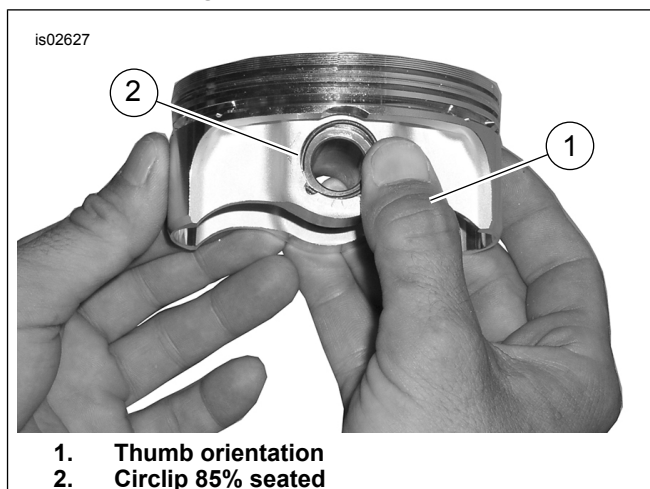

Figure 2. Install Circlip
- See Figure 2. Position your thumb (1) as shown, and press firmly until approximately 85% of the circlip (2) is seated in the groove.